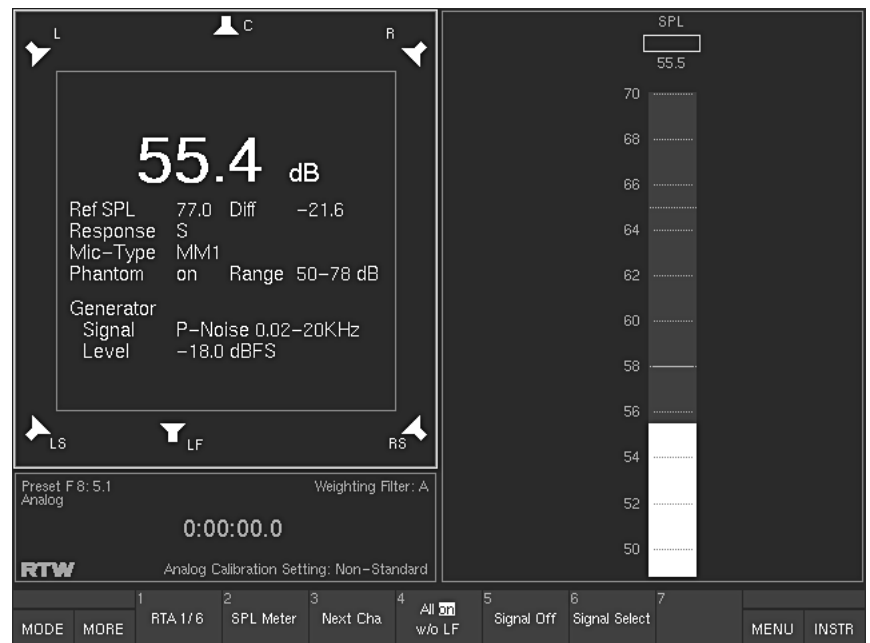

Fig. 5-26: First Toolbar function layer of the CAL instrument. Select MORE to display additional functions (layer 2)
(First layer, button/key 1, see Fig. 5-26)
(First layer, button/key 2, see Fig. 5-26)
(First layer, button/key 3, see Fig. 5-26)
(First layer, button/key 4, see Fig. 5-26)
(First layer, button/key 5, see Fig. 5-26)
(First layer, button/key 6, see Fig. 5-26)
Selecting **Signal Select** (button/key 6 in the CAL instrument, see Fig. 5-26 in chapter 5.8.1) opens a new function layer containing the controls for the functions of the test signal generator: